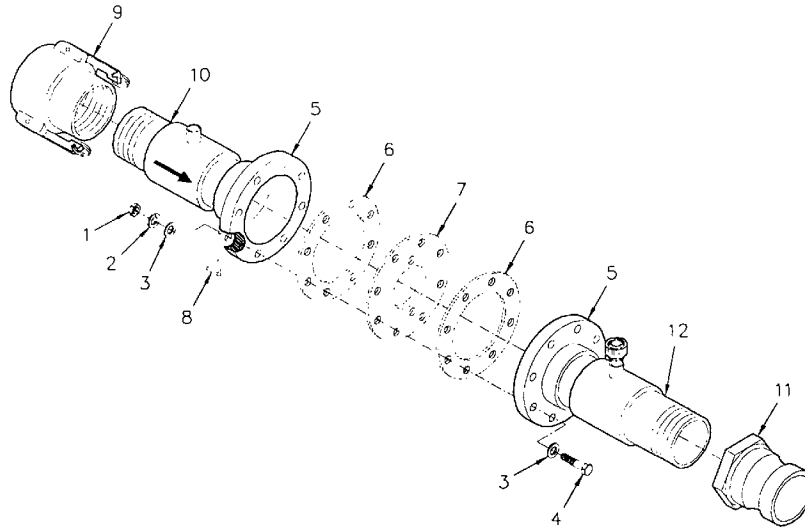

Figure 5-2. Manifold Assembly
- (1) Remove hex nuts (1, Figure 5-2), lockwashers (2), flat washers (3), and bolts (4), securing flanges (5) together.
- (2) Separate flanges (5) and remove gaskets (6), orifice plate (7), and bracket (8).
- (3) Remove quick disconnect coupling (9) from nipple (10).
- (4) Remove quick disconnect coupling (11) from nipple (12).
- (7) For inlet half of manifold assembly apply cleaner/primer to slip by spur adapter (5) and inside top of tee (2). Allow to dry.
- (8) Apply adhesive to slip by spur adapter (5) and insert into top of tee (2).
- (9) For outlet half of manifold assembly apply cleaner/primer to nipple (6) and inside top of tee (2). Allow to dry.
- (10) Apply adhesive to nipple (6) and insert nipple (6) through ball valve collar (7) and install into top of tee (2).
- (11) Apply anti-seize tape to threads of nipple (12, Figure 5-2) and install quick connect coupling (11).
- (12) Apply anti-seize tape to threads of nipple (10) and install quick connect coupling (9).
- (13) Position orifice plate (7) and gaskets (6) between flanges (5).
- (14) Position flange (5) next to bracket (8). Secure flanges with bolts (4), flat washers (3), lockwashers (2), and hex nuts (1).